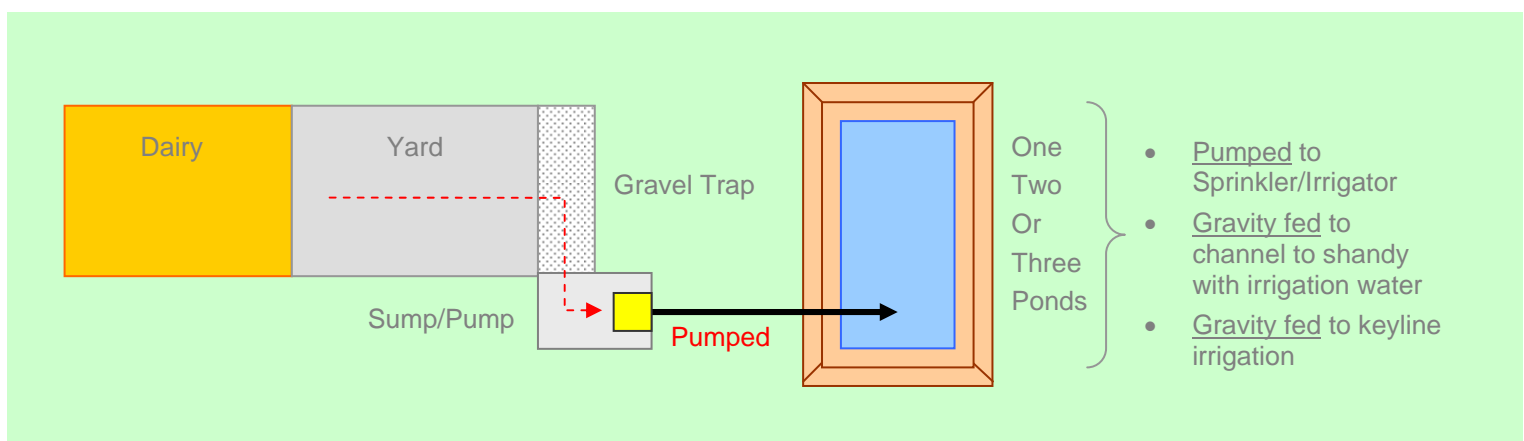

Figure 2: Some methods of treating and storing effluent prior to land application
- Storing effluent during wet weather or when runoff may occur, and then applying it to land during periods when runoff is less likely. (Figure 2).